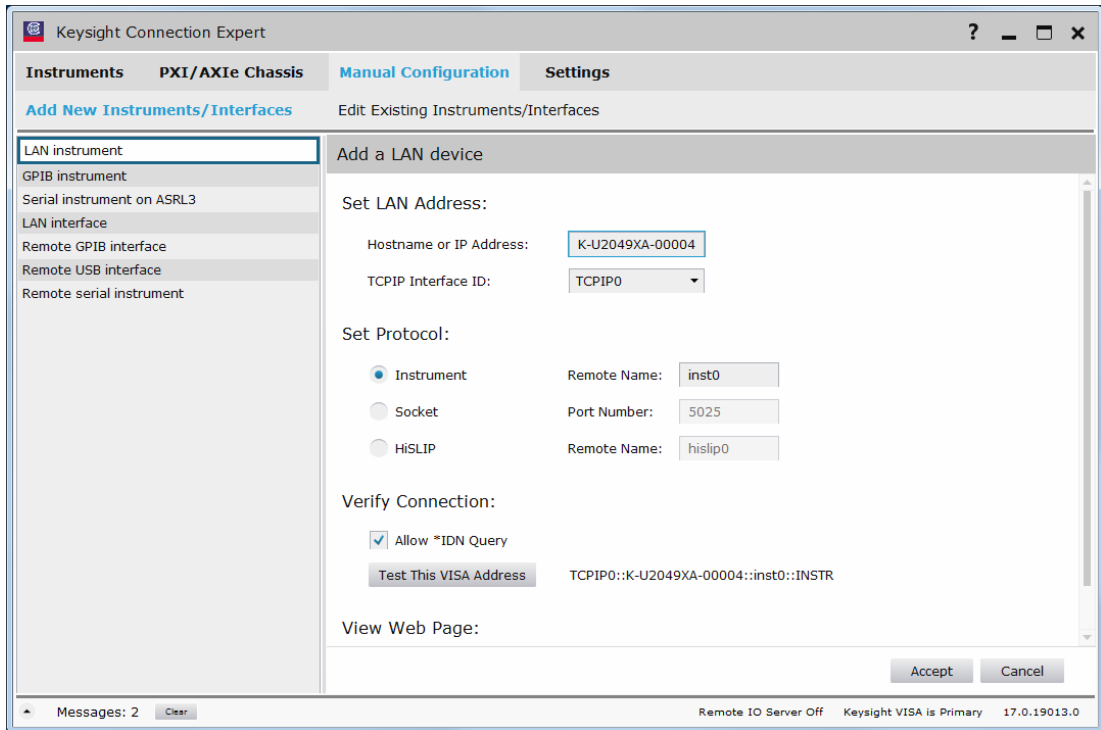

Figure 1-8 Add a LAN instrument in Keysight Connection Expert via host name
- 3 Launch the Keysight Connection Expert by selecting the IO icon (). Set the instrument host name (**Figure 1-8**). Every U2049XA has a default host name in the form of: